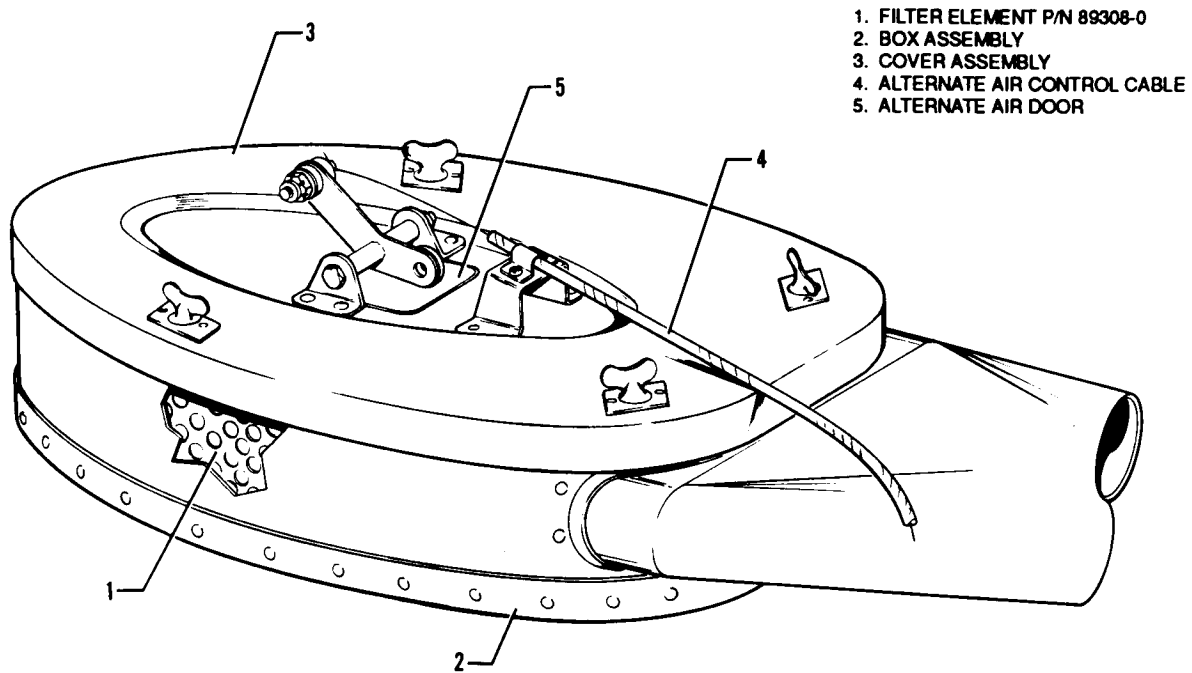

Figure 8-8. Induction System Installation
**8-30. REMOVAL OF AIR FILTER.** (Refer to Figure 8-8.)
### 8-32. INSTALLATION OF AIR FILTER. (Refer to Figure 8-8.)